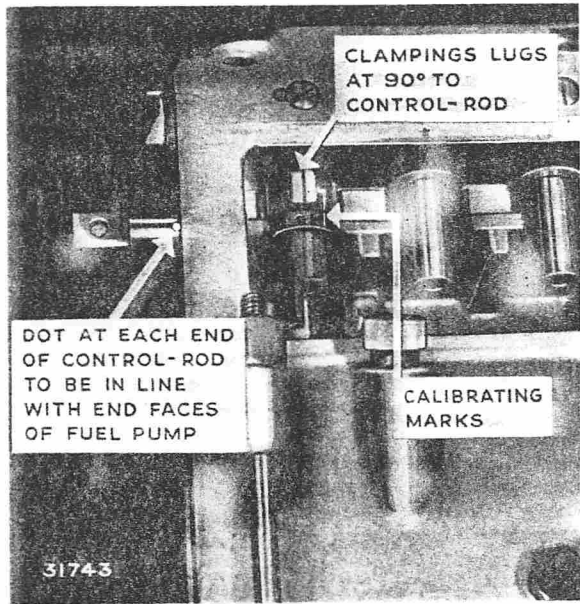

FIG. 39. SETTING CONTROL ROD
4. Assemble control rod in the pump casing and set it in the middle position. The dot at each end of the control rod should be set so that it is in line with the outer face of the pump body (Fig. 39).
6. With the control rod in the central position, quadrants should be meshed so that their clamping lugs are at 90° to the control rod and in line with the barrel locking screws (Fig. 39).